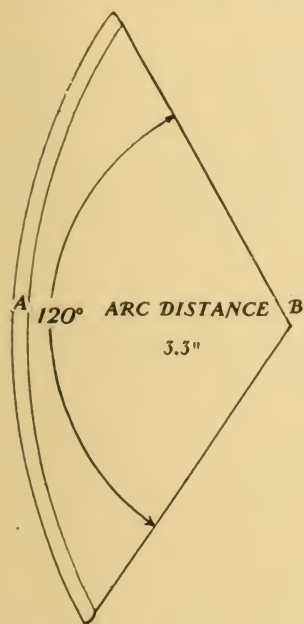

FIG. 46. — Showing mirror diameter 7.5 inches parabolic curve.
(140) Turning next to Fig. 46, we view a mirror collector 7.5 inches in diameter, the light source located 3.3 inches from its vertex (center). It will intercept an angle of light of 120 degrees. If we increase the mirror diameter to 8 inches and locate the light source 4.5 inches from the mirror vertex, it will still intercept a 100 degree angle of light, as against the smaller angle available to the 4.25 inch free diameter glass collector under analogous conditions. Even if we use a  $6\frac{5}{8}$  inch diameter mirror, with light source 3.75 inches from its vertex, we can collect approximately a 95 degree light angle.